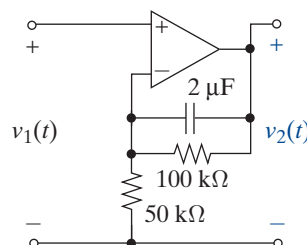

FIGURE P11-23
- 11-23 Find $v_2(t)$ in Figure P11-23 when $v_1(t) = \delta(t)$. Repeat for $v_1(t) = u(t)$.